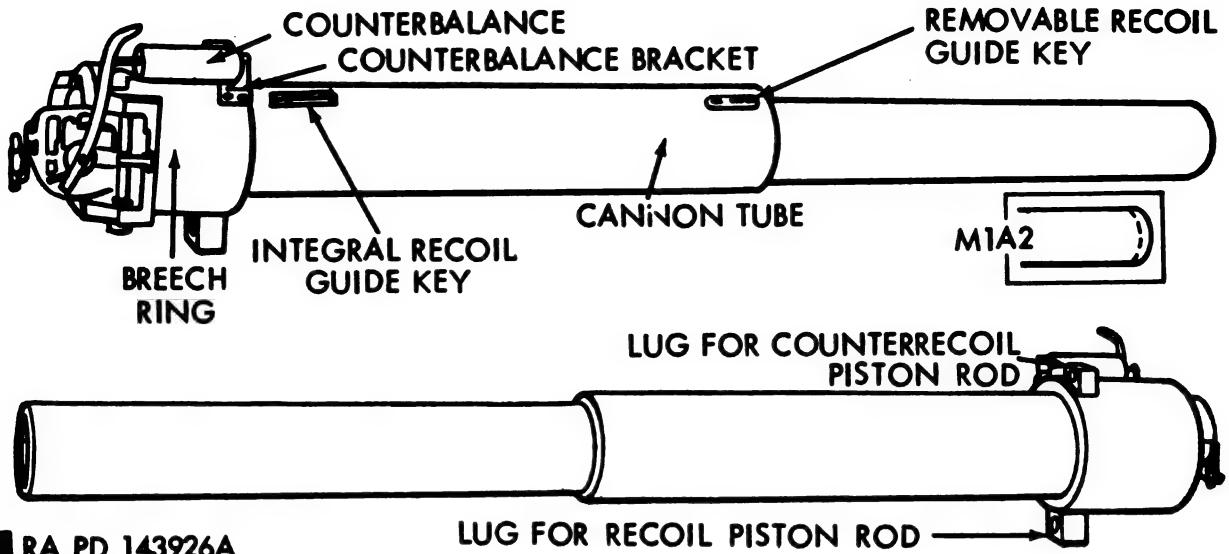
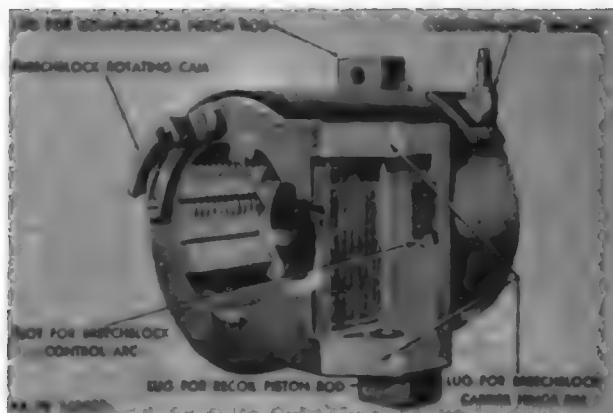
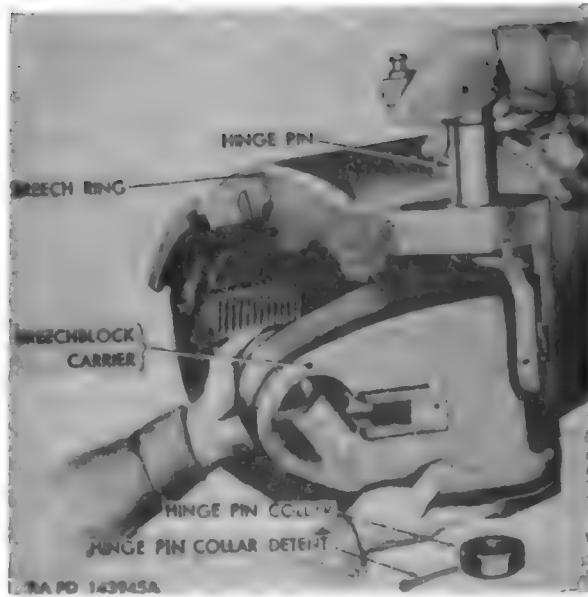

Figure 99. 155-mm cannon.
Figure 104. Breech ring—right rear view.
Figure 117. Removing or installing breechblock carrier and hinge pin.
a. The 155-mm cannon (fig. 99) consists of the breech ring, the breechblock, breech mechanism, and barrel. The barrel is an alloy steel tube screwed into the front of the breech ring and locked into position with a locking screw.
c. An integral recoil guide key (fig. 99) and similarly shaped removable recoil guide key maintain the alignment of the cannon tube in the recoil mechanism.
- a. *Counterbalance.* The counterbalance (figs. 99 and 100) facilitates closing the breech when the cannon is elevated, under which condition gravity opposes the swinging of the breechblock into the
d. Firing Mechanism Housing Adapter. The firing mechanism housing adapter (fig. 99) fits into the rear end of the bore of the breechblock carrier and into the rear of the breechblock. It has a rectangular lower arm which supports the percussion hammer. The adapter is retained in the carrier by the firing mechanism housing, which fits the interior of the adapter and screws onto the rear end of the obturator spindle. The firing mechanism screws into the firing mechanism housing, during firing of the howitzer (para 48b).
k. Breech Ring. The exterior of the cannon breech ring (fig. 104) is cylindrical in form. At the front end are lugs on the top and bottom for attachment of the cannon to the counterrecoil and recoil piston rods (fig. 99). At the rear on the right side is the lug for the breechblock carrier hinge pin. The counterbalance bracket is attached by four screws to the upper right side of the breech ring near the forward end. The breechblock rotating cam is attached to the upper left rear face of the breech ring. The forward portion of the breech ring is threaded internally to receive the cannon tube. The rear portion of the bore forms the breech recess and is divided into nine stepped and threaded sectors to correspond with the exterior of the breechblock.
g. Remove Hinge Pin. Drive the hinge pin collar detent out of the hinge pin collar on the lower end of the hinge pin (fig. 117). Remove the collar from the lower end of the hinge pin. While the breechblock carrier is being held, withdraw the hinge pin from the breech ring. A slight movement of the carrier may assist in the removal of the pin. Remove the carrier from the breech ring. The hinge pin driving washer (fig. 103) generally will adhere to the carrier and should not be permitted to fall. Remove the breechblock carrier bearing washer from the breech ring.
(1) Place the breechblock carrier bearing washer (fig. 103) on the lower hinge pin lug of the breech ring (fig. 104), fitting the small hole in the washer over the pin in the lug. Assemble the hinge pin driving washer to the breechblock carrier and place the carrier in position between the hinge pin lugs on the breech ring (fig. 117).
(2) While supporting the carrier, insert the hinge pin downward through the hinge pin lug and carrier (fig. 117). The squared lower end of the hinge pin must enter the square hole in the driving washer, with the arm of the hinge pin pointing toward the left end of the carrier. Place the hinge pin collar on the lower end of the hinge pin, aligning the holes in the collar and hinge pin. Insert the hinge pin collar detent through the holes to secure the collar to the pin.